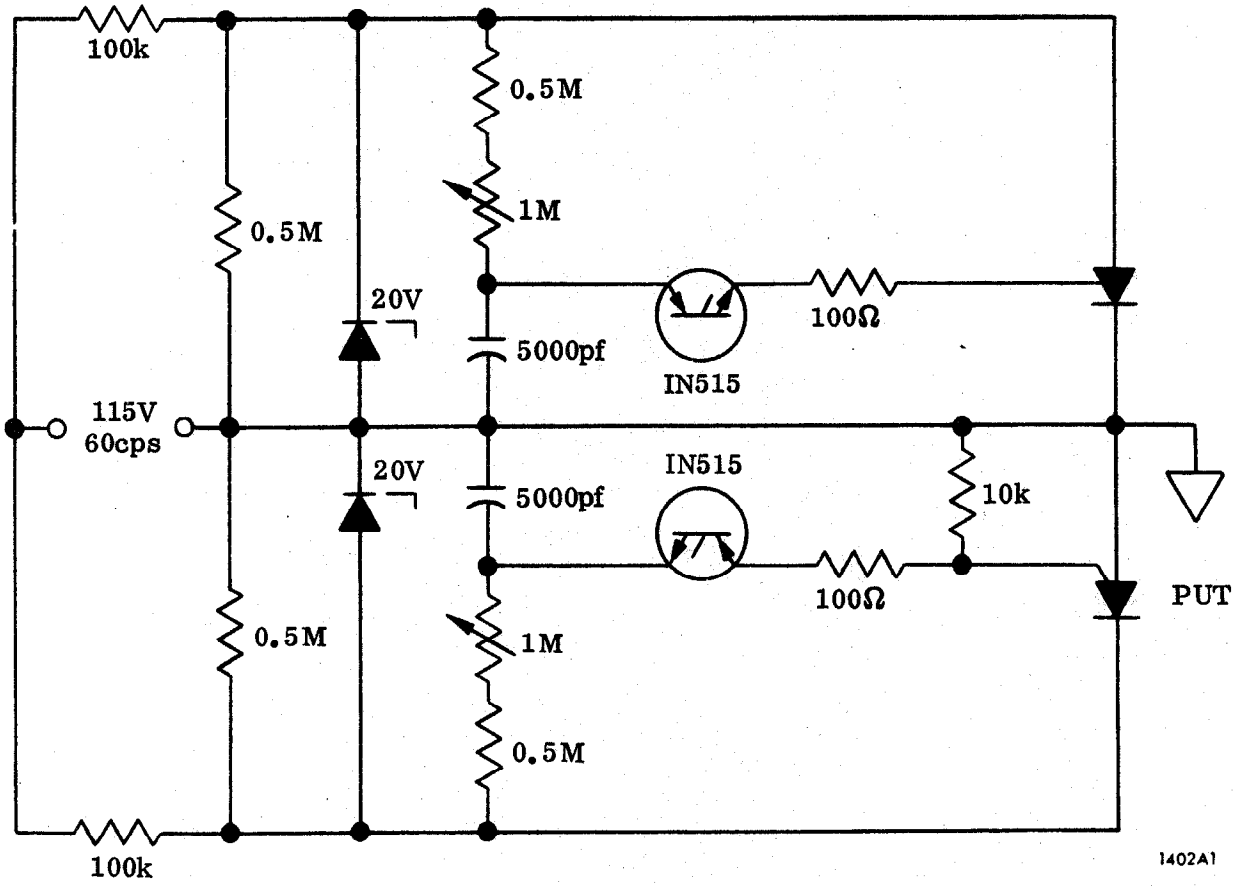
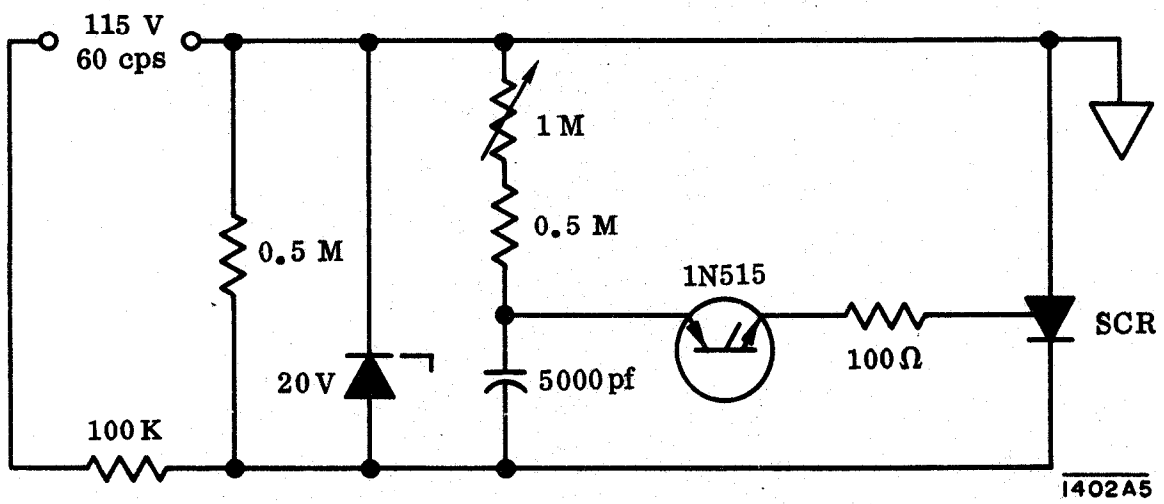
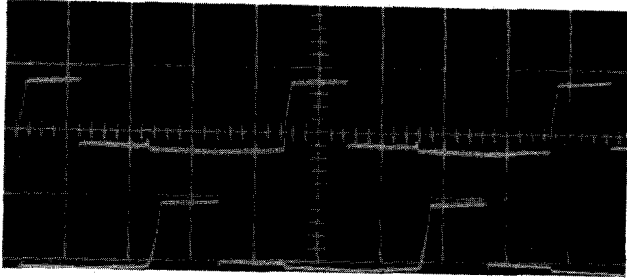

Fig. 1
Fig. 2
Fig. 3
The device functions as follows. Refer to the top half of Fig. 1. The ac line voltage is converted to a +20 to -0.6 across the RC circuit. The capacitor charges toward 20 volts. When the voltage across the capacitor reaches 10 V the PNPN diode breaks down, and it discharges through the base-cathode of the SCR, pulsing it on. The turning on of the SCR removes the charging voltage for the remainder of the half period.
The bottom half of the schematic of Fig. 1 performs in a similar manner except that it is active during the negative half period. Also, the SCR is replaced by a programmable unijunction transistor. This is done to allow the circuit to be anti-symmetrical with respect to ground. If an SCR were to be used as shown in Fig. 2, the pulse from the capacitor discharge is not with respect to ground. The waveforms across the SCR and PUT respectively are shown in Fig. 3.
2. Alternate version of bottom portion of Fig. 1.